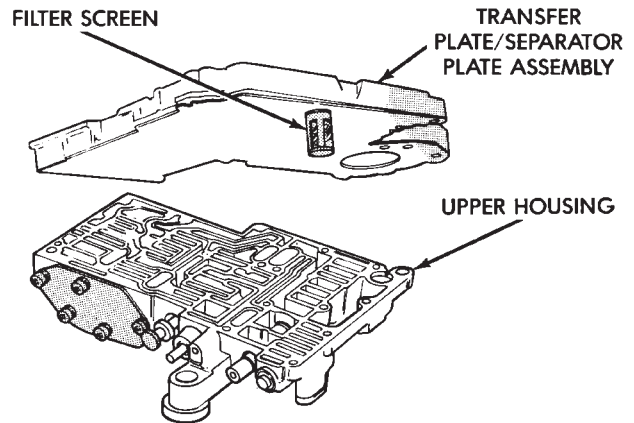

Fig. 130 Installing Transfer Plate On Upper Housing
- (2) Position assembled transfer plate and upper housing separator plate on upper housing (Fig. 130). Be sure filter screen is seated in proper housing recess.